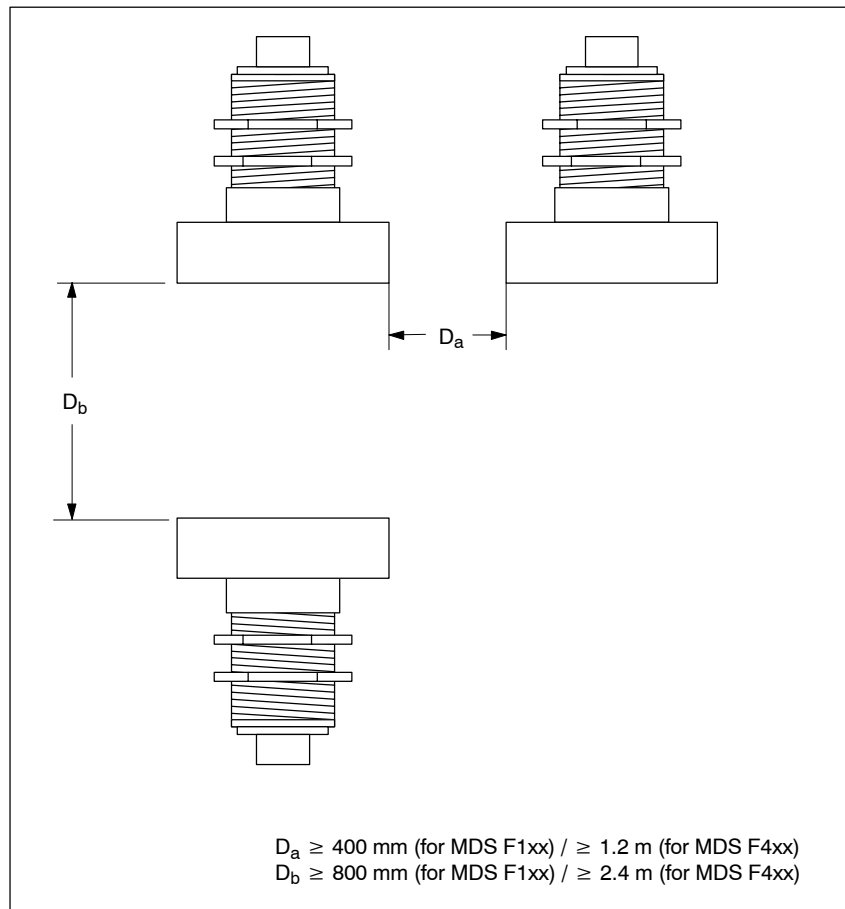

Figure 6-63 Distance D: SIM 82
Minimum distance from SLA to SLA (D)	See figure 6-63.